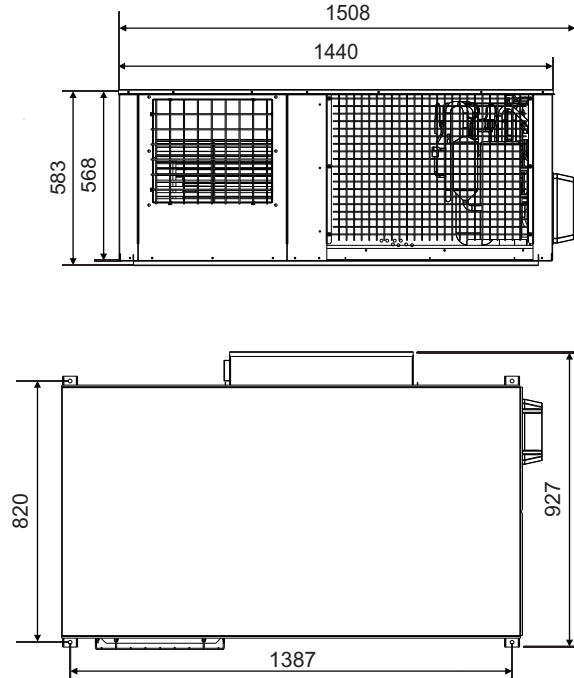

Fig. 3-1 Dimension of Outdoor Unit
1. Fig. 3-1 is applicable for models of MVH-H100C/DN1 ; MVH-H140C/DGN1A ; MVH-H160C/DGN1A